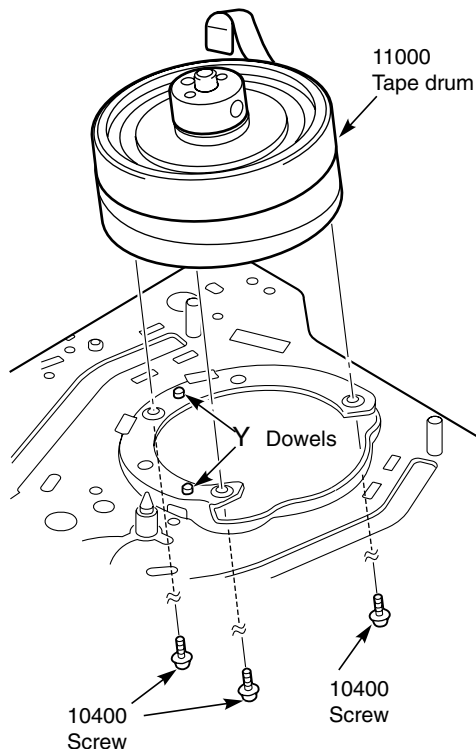

Fig. 8.38
**Note:** When refitting the tape drum (Pos. 11000) align it to match with the two dowels (Y) of the mounting base on the mechanism chassis (Fig. 8.38). Tighten the screws (Pos. 10400) using a torque of 3.9 to 4.2 kg/cm.